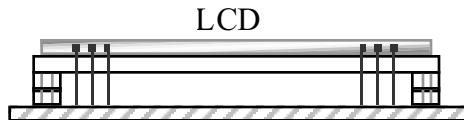

Figure 5-11
- The LCD must be seated flat against the diffuser as shown in the edge view (Figure 5-11). If the LCD does not appear to be seated correctly, it may be because the backlight LEDs or spacers are mis-aligned. When the entire assembly is installed correctly, the LCD's pins will all protrude the same distance from the bottom of the board. (Some units may be supplied with shorter pins that do not protrude at all.)